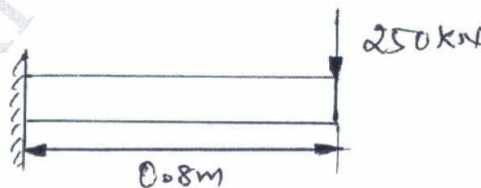

Fig.Q6(a)
- A cantilever beam subjected to point load of 250 kN as shown in Fig.Q6(a). Determine the deflection at the free end and the support reactions. Take $E = 200\text{GPa}$, $I = 4 \times 10^6 \text{ mm}^4$. (10 Marks)